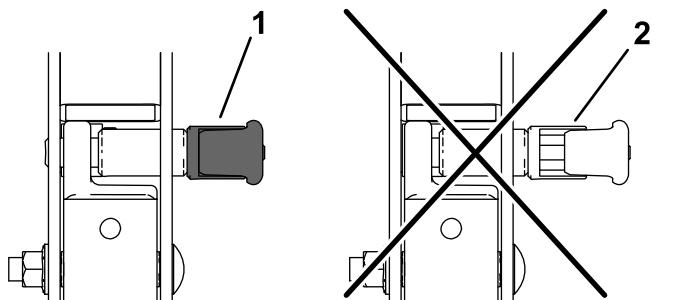

Figure 67
**Note:** The upper hoop of the roll bar may need to be pushed forward or pulled rearward to fully engage both knobs (Figure 66 and Figure 67).